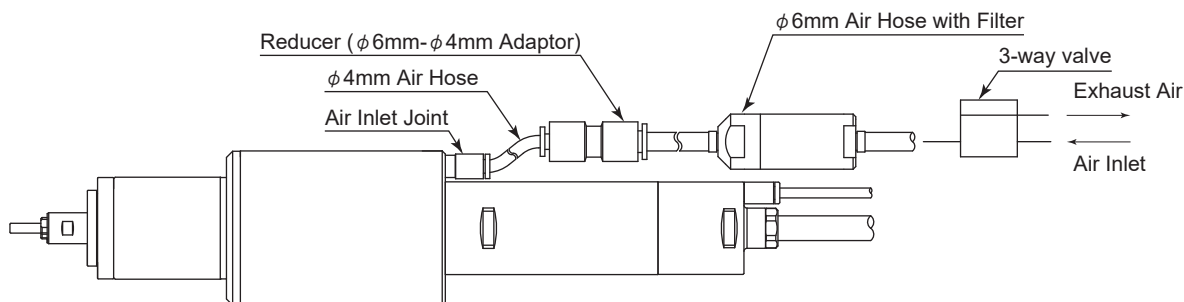

Fig. 4
- When installing the collet clamp / unclamp fittings, thoroughly read the instructions before connecting.(Fig. 4)